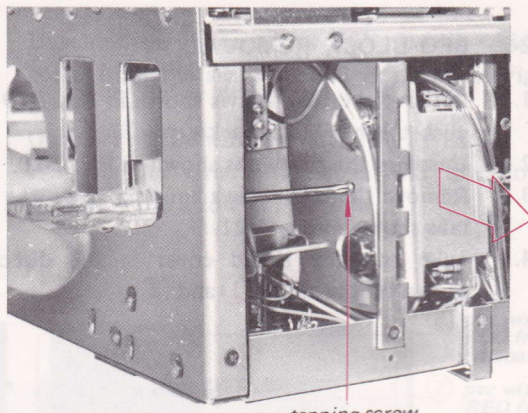

Fig. 2-28
2. Remove the screw shown in Fig. 2-28.